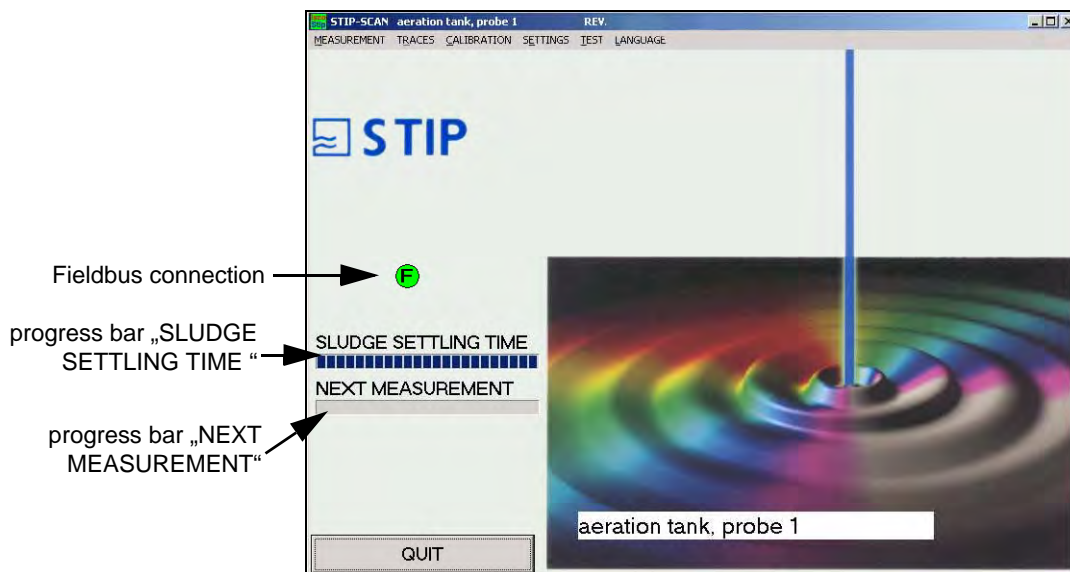

Fig. 3.3.5.9-4: Main menu with progress bar „NEXT MEASUREMENT“, progress bar „SLUDGE SETTLING TIME“ and activated Fieldbus connection
- The progress bar „**NEXT MEASUREMENT**“ shows the time until the next measurement starts (see fig. 3.3.5.9-4);
- The progress bar „**SETTLING TIME**“ (see fig. 3.3.5.9-4) shows the time for settling suspended substances in the inlet as well as the time for settling suspended solids after the sludge settling in the aeration tank: